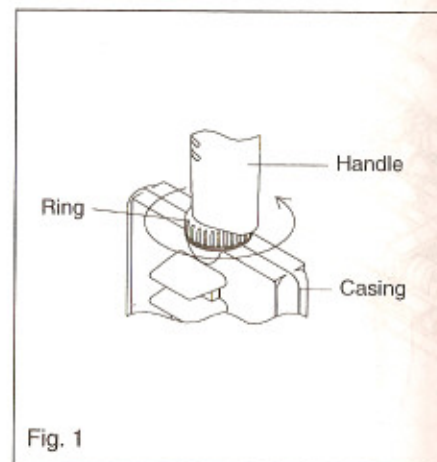

Fig. 1
- 1) Turn the ring in the direction of the arrow and remove the casing from the handle. (Fig. 1)
- 4) Assemble and attach the casing set to the handle. (Fig. 1)
- 3) Make sure that the unit turned to the normal temperature after the drying. Tighten the connecting screw in the Fig.2 and four screws on the casing in the Fig.4. And make sure that a ring in the Fig.1 is tightened.